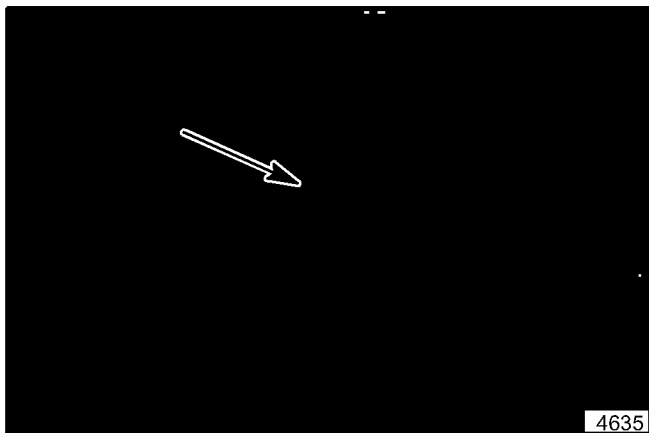

Figure 13. Engine Choke
4. Use the choke as required to start a cold engine. Choke control is located on the front of the engine (see figure 13).